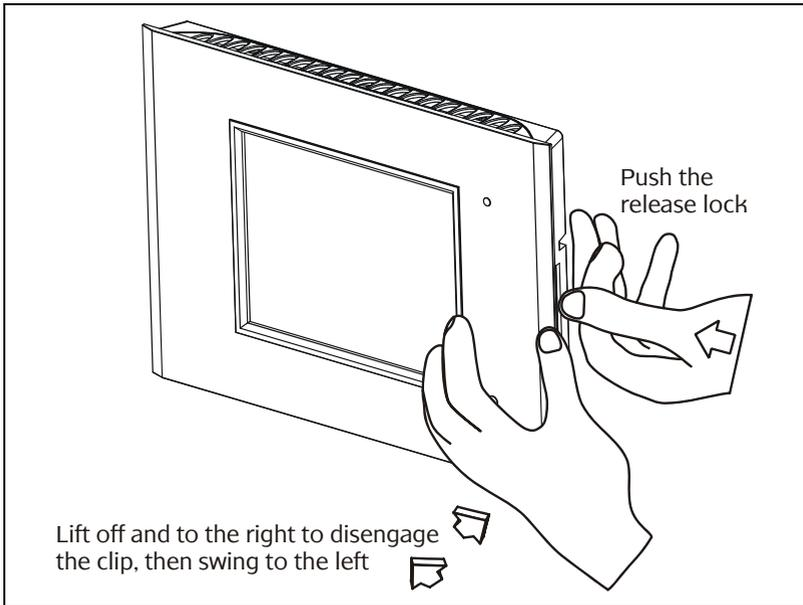

Figure 10 – Removing the fascia
- 3) Swing the fascia off towards the left. Refer to Figure 10.